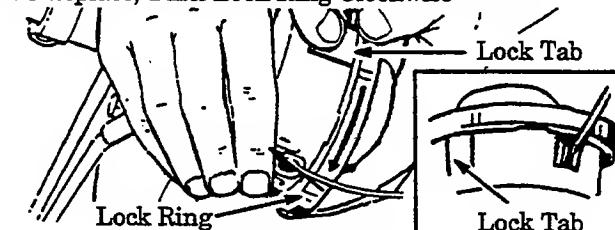

Figure 15
- Hold the trimmer head as shown in Figure 15 . Press the lock tab and turn the lock ring as shown in Figure 15 .